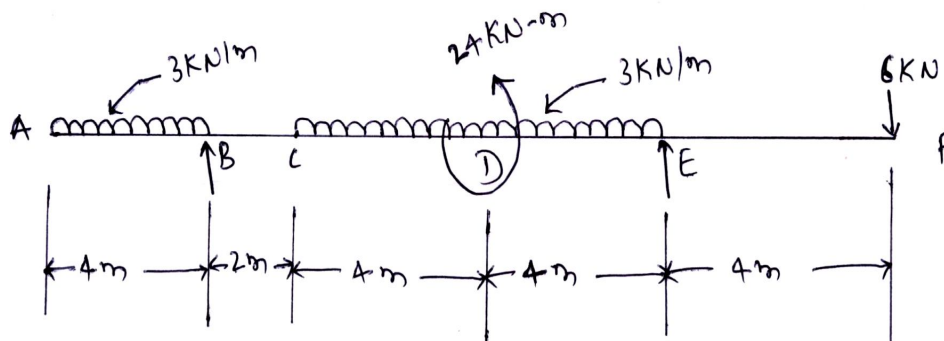

Fig.Q3(b)
- b. Draw the bending moment and shear force diagrams for the beams shown in Fig.Q3(b). Indicate the salient values on the diagram.